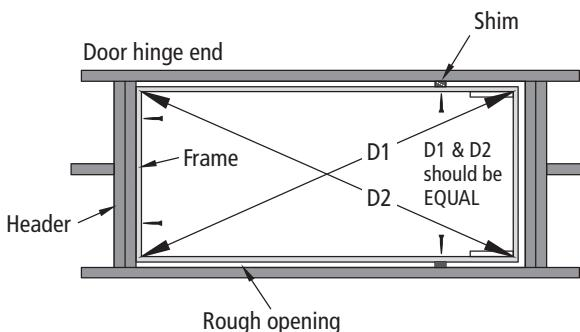

FIGURE 6
F. Make sure frame on door hinge side of ladder is pushed up against header and is centered side to side in rough opening. Temporarily secure frame to header using two 2 ½" deck screws (Figure 6). Do not use pre-drilled holes for deck screws. Pre-drilled holes are used in Step 2.
G. Carefully open attic ladder door but do not unfold the climbing section until indicated in step 3. Center and square the opposite side of attic ladder frame in the rough opening using shims. Ensure ladder frame is square by measuring diagonals of the frame within $\frac{1}{8}$ " (Figure 6).
H. Secure sides of ladder frame to ceiling joists with 2 ½" deck screws at shim locations (Figure 6). Do not use pre-drilled holes for deck screws. Pre-drilled holes are used in Step 2.